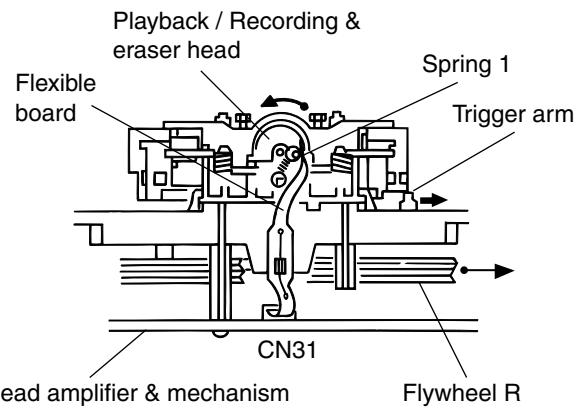
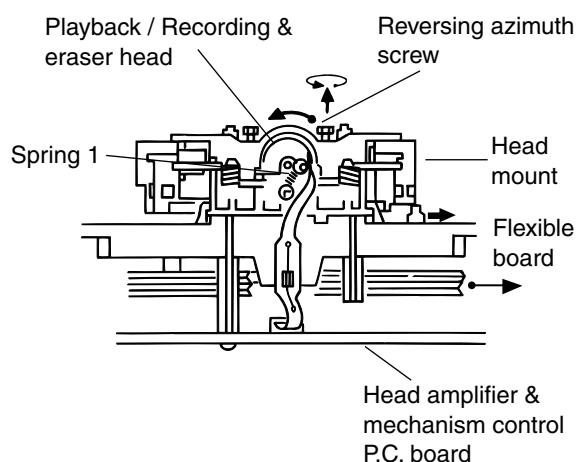

Fig. 2
Fig. 3
2. When the flywheel R is rotated in counterclockwise direction, the playback / recording & eraser head will be turned in counterclockwise direction from the position in Fig. 2 to that in Fig. 3.